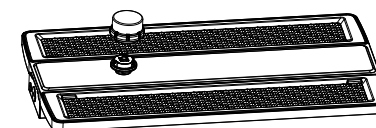

Figure 12
- Step 3. Different sensor adapters can be added to meet the need for compatibility with more sensors. (Figure 12)